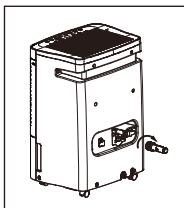

fig. 2
- b. Screw the drainage joint onto the threaded portion of the drainage connector of the unit securely. (fig.2&3)